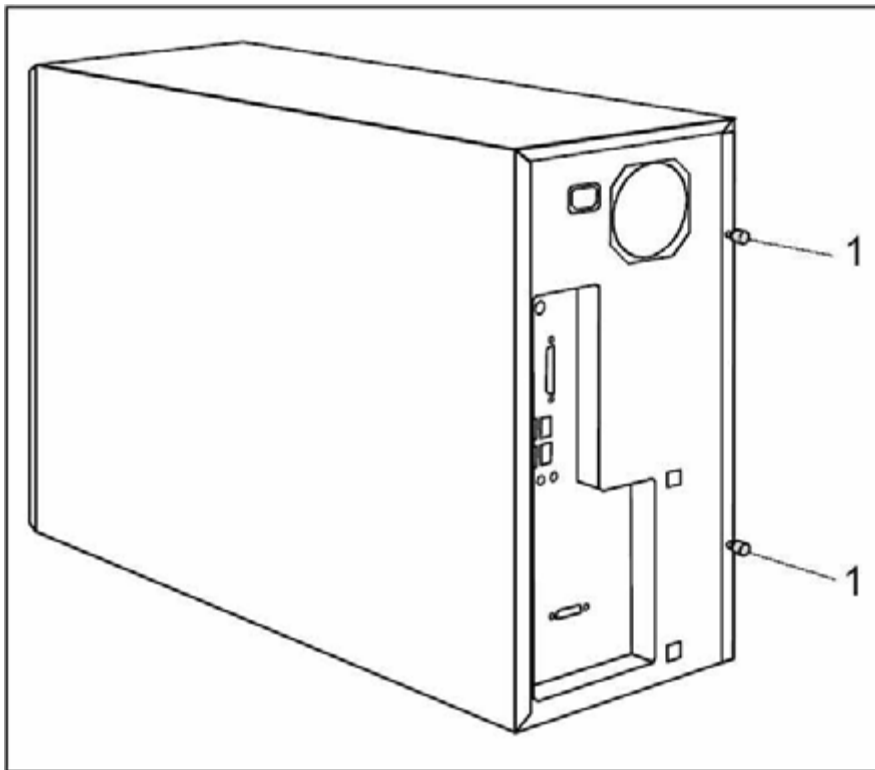

Fig. 38: Remove PC cover_a M450_
4. Unscrew the two knurled screws (1/ Fig. 38 / p. 70) on the back of the casing.